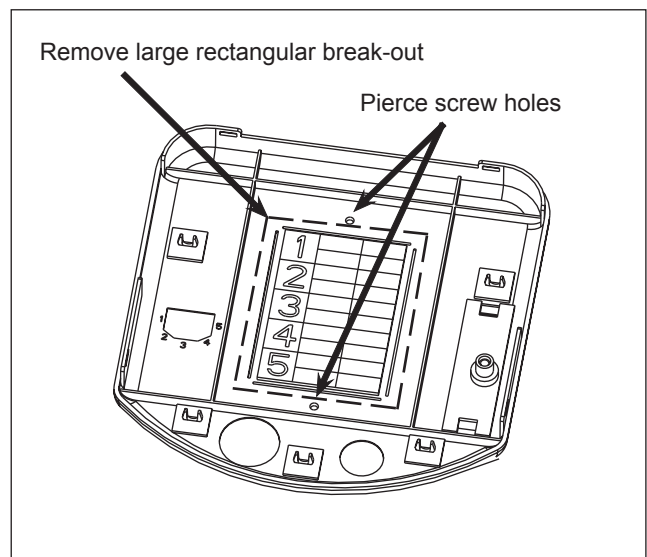

Figure 6
**12.2** Remove the large rectangular breakout from the WMO lid by cutting the scored areas with a utility knife and breaking out the rectangular center piece left (Figure 6). Also pierce the lid where the faceplate mounting screws will pass through. The small holes left in the lid are sized such that #6-32 machine screws may be threaded directly into the holes without a nut on the inside.